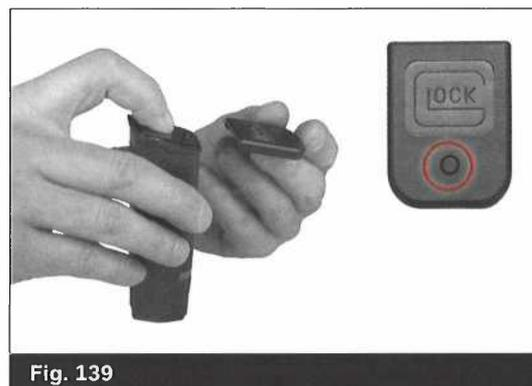

Fig. 139
- With your other hand, slide the floorplate onto the base of the magazine from front to back until it locks in position (Fig. 139).